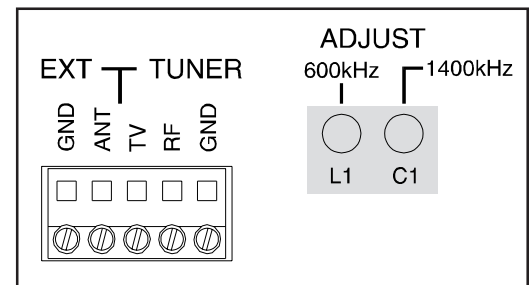

Figure 21
1. Tune to a weak AM station near 600kHz on the AM band. Using a small **NON - METALLIC** screwdriver, adjust the 600kHz transformer L1 for maximum signal strength. Refer to Figure 21.